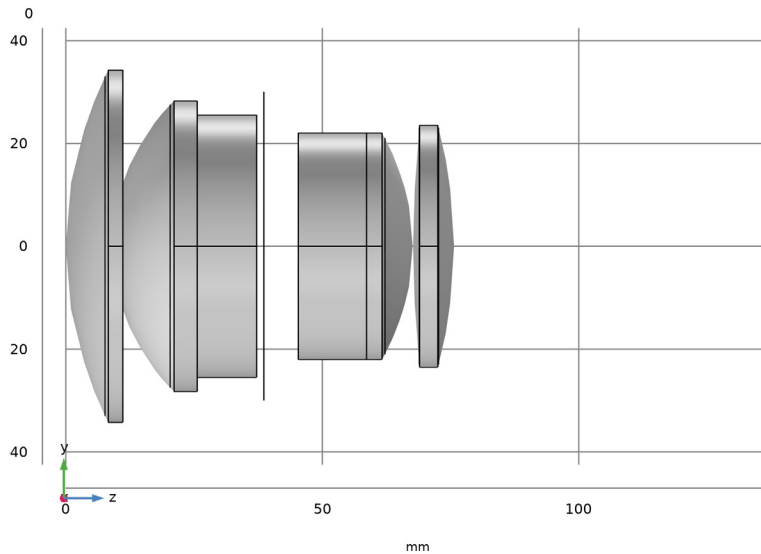

Figure 1: The Double Gauss Lens geometry sequence. Details of this lens are from Ref. 1.
The model used in this simulation is the Double Gauss Lens found in the Ray Optics Module Application Libraries. The lens shown in Figure 1 is a 100 mm focal length lens by Lautebacher & Brendel (see Ref. 1). Full details of this model (including instructions for creating the lens geometry) can be found in the Double Gauss Lens tutorial.
- 2 Click  **Open**. The Double Gauss Lens geometry can be seen in Figure 1.